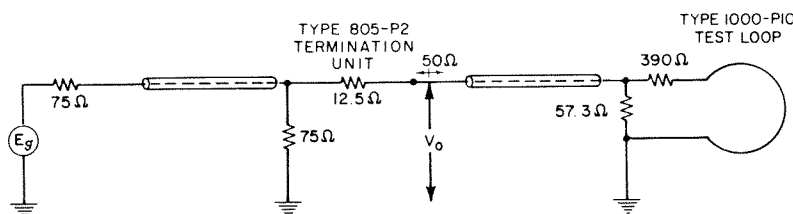

Figure 2. Diagram of Type 1000-P10 Test Loop.
**TYPE 1000-P10 TEST LOOP.** (See Figure 2.) With this test loop, receivers with loop antennas can be tested by several methods recommended by the Institute of Radio Engineers.1 The three-turn loop is